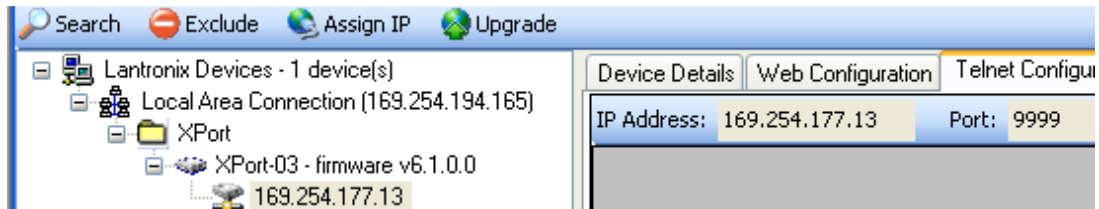

**Figure 13 Device Installer XPort-03**
5. When initial search has completed, access the XPort-03 device listed on the right-hand pane (Figure 13) by double-clicking on it. This will bring up its details.